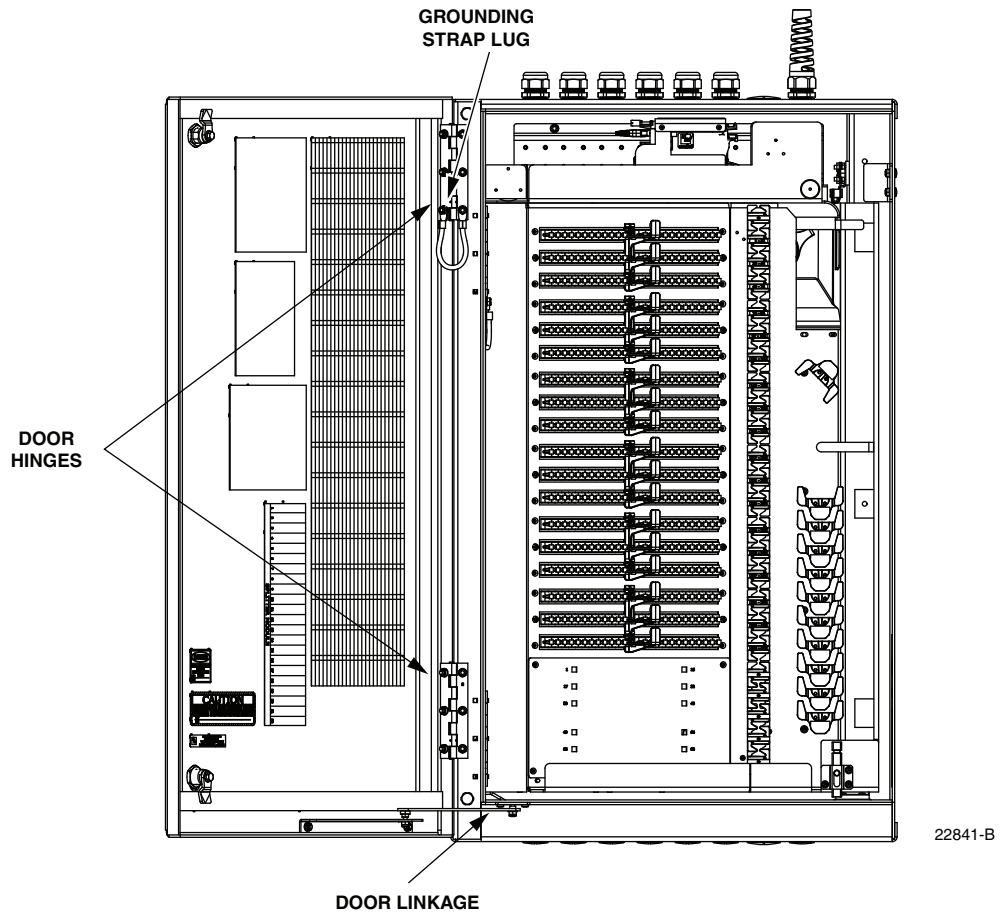

Figure 81. Door Replacement
1. Open both cabinet door and lock it in the open position as shown in Figure 81.
- ▶ **Note:** Be sure to re-secure the grounding strap lug (see Figure 81) to the door when securing the hinges to the door.